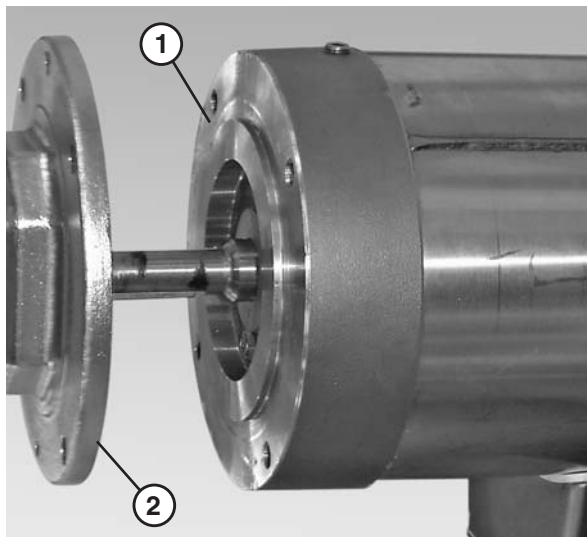

Figure 23
2. Detach the motor (**Figure 23, item 1**) from the gear reducer (**Figure 23, item 2**) and set the motor aside.